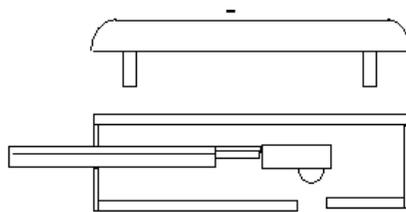

FIG. 5 Removing factory-installed shell
1. Using a sharp edged tool (knife blade, razor knife, etc.), separate the factory-installed shell as shown in FIG. 5.